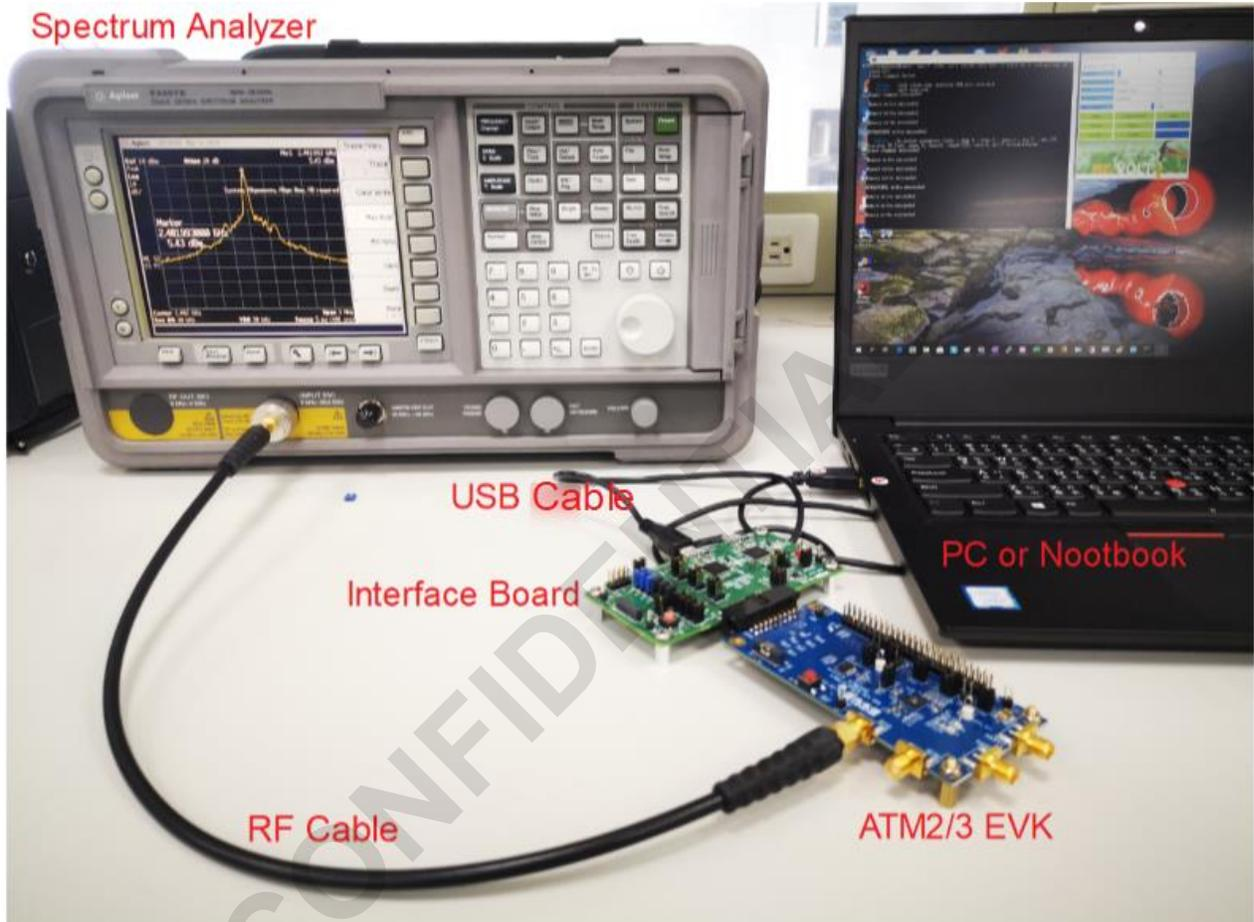

Figure 8 - ATM2/3 EVK Tx Test Environment Setting
- Figure 8 - ATM2/3 EVK Tx Test Environment Setting
There are three modes supported in the Tx Test: Burst Tx mode, Infinite Tx mode and Single tone mode. Figure 8 shows the ATM2/3 EVK Tx test environment.